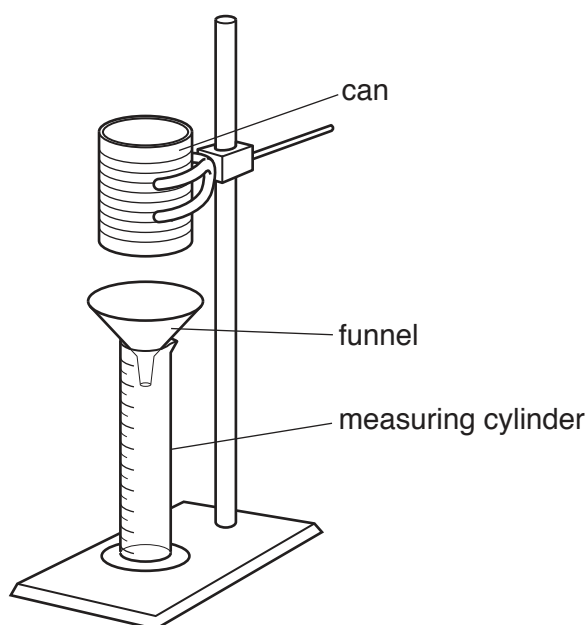

Fig. 4.1
3. Ensure that the jaws of the clamp are wide enough to go around the diameter of the can as shown in Fig. 4.1.
4. The Supervisor should set up the apparatus as shown in Fig. 4.1. The Supervisor should ensure that the base of the can is horizontal when the can is held securely by the clamp.
5. At the changeover the Supervisor should ensure that the apparatus is restored to the arrangement shown in Fig. 4.1 with an empty measuring cylinder beneath the can.